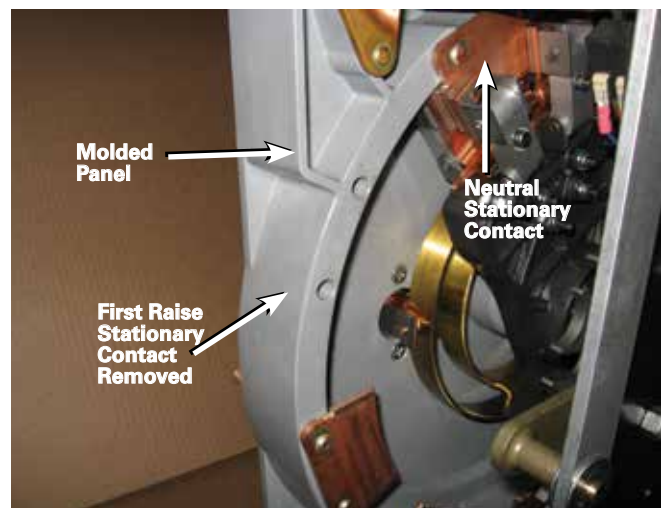

Figure 130. Stationary contact.
3. Remove the number 1 stationary contact from the molded panel using a 9/16" deep well socket wrench. Refer to Figure 130.